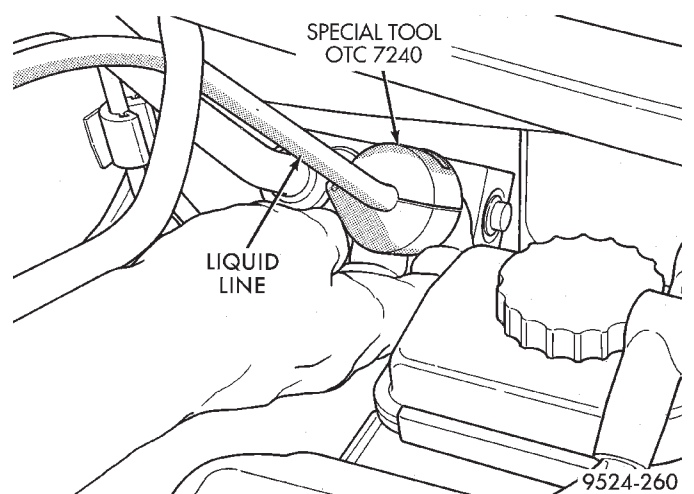
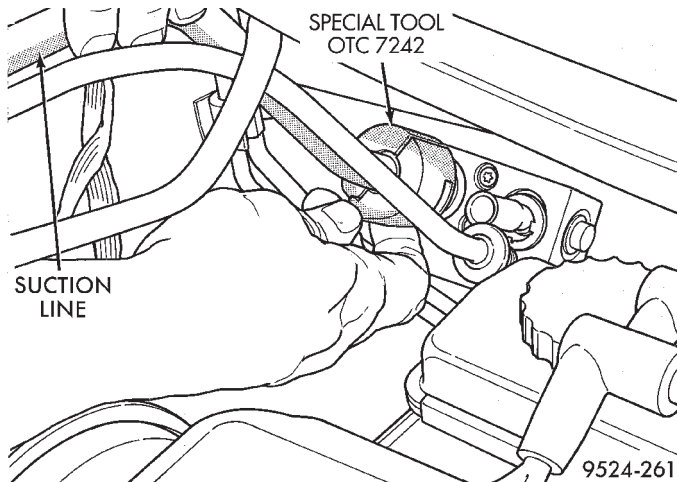

Fig. 46 Special Tool 7240 For Liquid Line
Fig. 47 Special Tool 7242 For Suction Line
- (3) Use special tool kit 7193 to disconnect quick connectors on expansion valve (Fig. 46) and (Fig. 47).